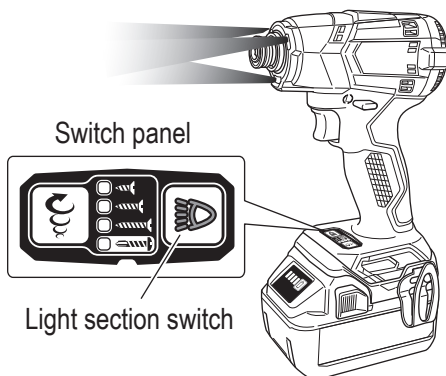

Fig. 12
- Press the light section switch on the switch panel to change the lighting mode of the LED light from "Always-ON" → "SW interlocked" → "OFF". (**Fig. 12**)